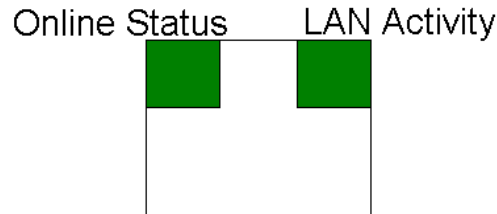

Figure 3-2: LAN Port LEDs
The LAN port comes with two (2) LEDs. As shown in *Figure 3-2*, one LED indicates the online status and the other indicates LAN activity. The LED definitions are shown in *Table 3-3*.